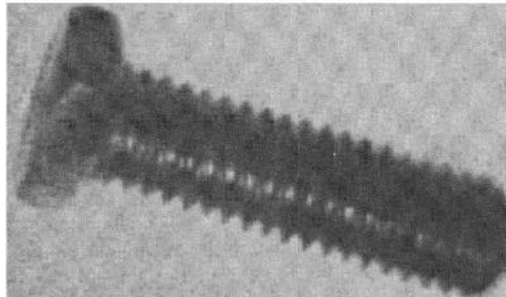

Figure 2
1. Design a machine vision system to measure the dimensions of the threaded part moving in a slow speed conveyor as shown in figure 2.